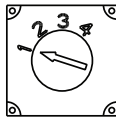

Figure 4: Voltage Selection Switch
- Adjustable voltage set points. Voltage selection switch is on bottom of regulator. See Figure 4 and Table 1 and Table 2 below.